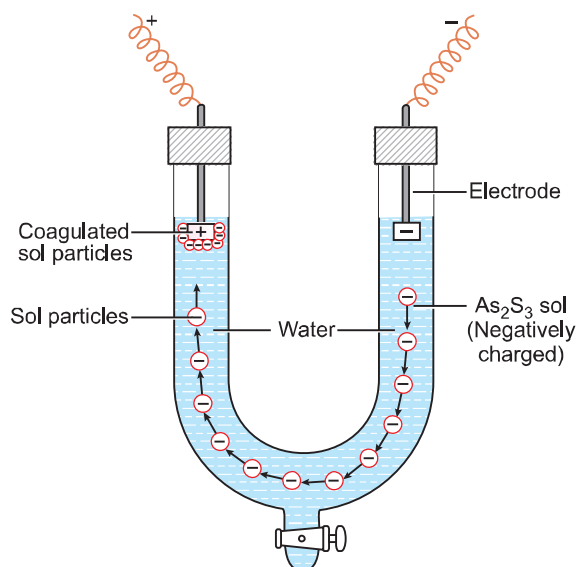

**Fig. 5.6: Tyndall Effect**
- (b) **Tyndall effect:** When a strong converging beam of light is passed through a colloidal solution placed in a dark room, the path of beam gets illuminated with a bluish light when viewed at right angles to the direction of the passage of light. This phenomenon is known as Tyndall effect (Fig. 5.6). The Tyndall effect is due to scattering of light by colloidal particles.